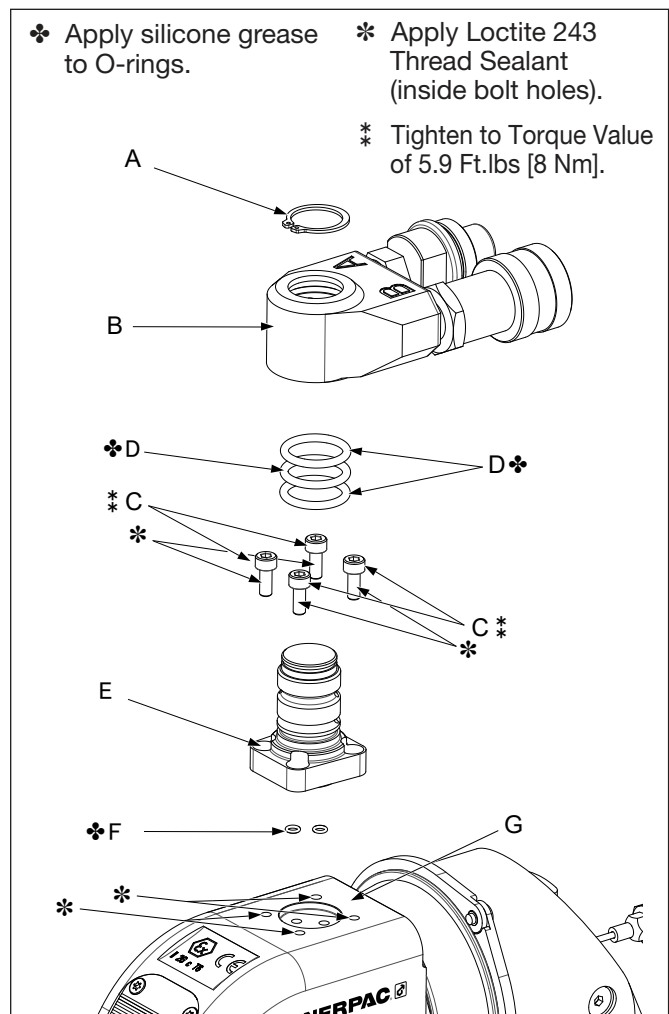
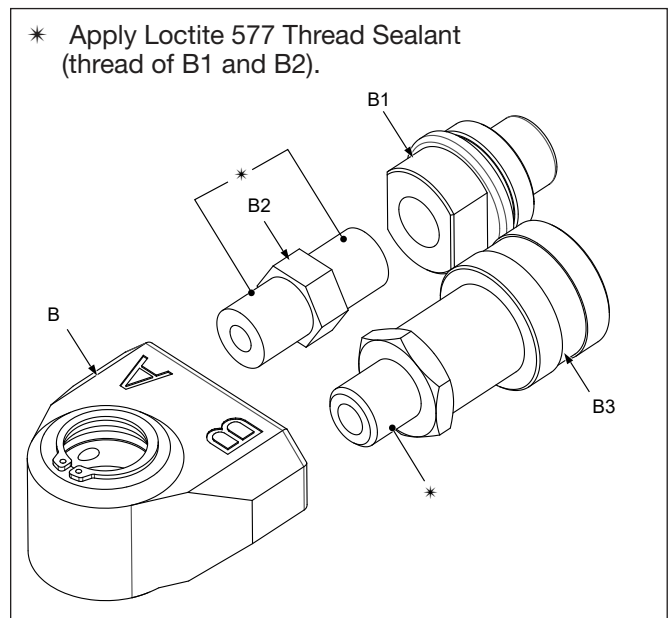

Figure 11: Removing Swivel Post and Swivel Assembly
Figure 12: Removing Swivel Post and Swivel Assembly
### 7.2.1 Hydraulic Swivel Assembly (Fig.11 + Fig.12)
**NOTICE** If removed, reinstall the couplings (B1 and B3) and adapter (B2) before installing the swivel (B) on the swivel post (E). Use a vise with soft jaws to hold the swivel as couplings and adapter are installed.
1. Apply Loctite 577 sealant to threads on female coupling (B3) and adapter (B2). See Fig. 12 for locations.
1. Apply a small amount of Loctite 243 thread sealant to the threaded mounting holes in the wrench housing. See Fig. 11 for locations.
2. Install two new O-rings (F) into the ports on the base of the swivel post (E).
3. Place the swivel post (E) onto the wrench (G), making sure that hydraulic ports are aligned. Be careful that O-rings (F) do not drop out or become pinched or cut.
4. • Install the degreased socket head capscrews (D) and tighten to 3.7 Ft.lbs [5.1 Nm].